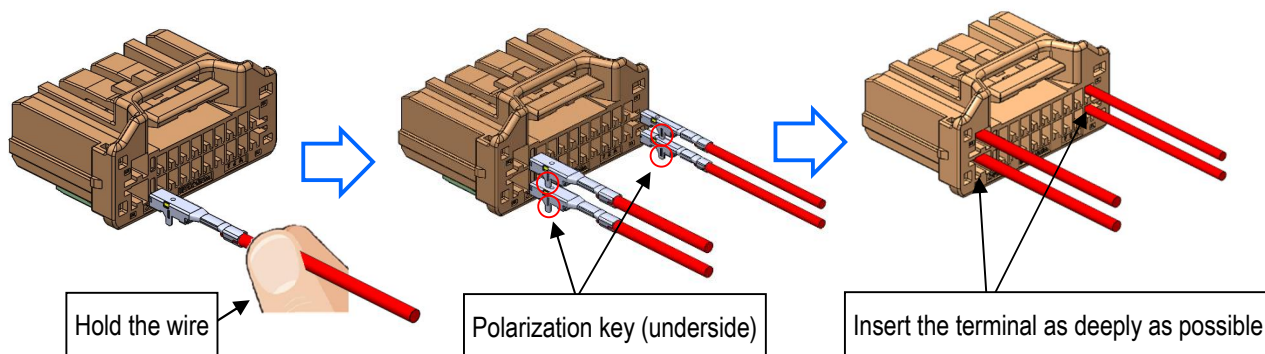

Fig 25.Terminal insertion direction
- ① Ensure that the terminal is crimped correctly and there is no damage, deform or dirt present.
- ② Hold the wire to insert the terminal as shown in Fig.25.
- ③ Insert the terminal into the corresponding corehole of the housing, as deeply as possible, in the orientation as shown in Fig. 25.
- ④ Once the terminal is inserted, ensure that the terminal retention is fastened by pulling the wire lightly towards you.